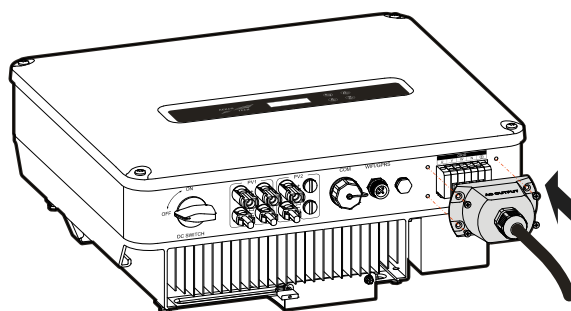

Figure3-24 Fasten the AC output waterproof cover
Step 3 After wiring, fasten the AC output waterproof cover to the inverter (as shown in Figure3-24) by four flat screw M4\*12 and then screw the external AC output nut.